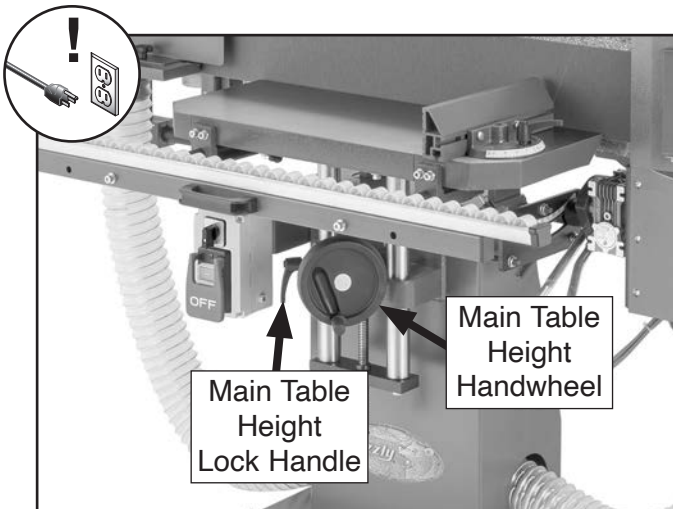

Figure 48. Main table height adjustment components.
2. Loosen main table height lock handle (see **Figure 48**).
3. Adjust main table height handwheel (see **Figure 48**) as desired.